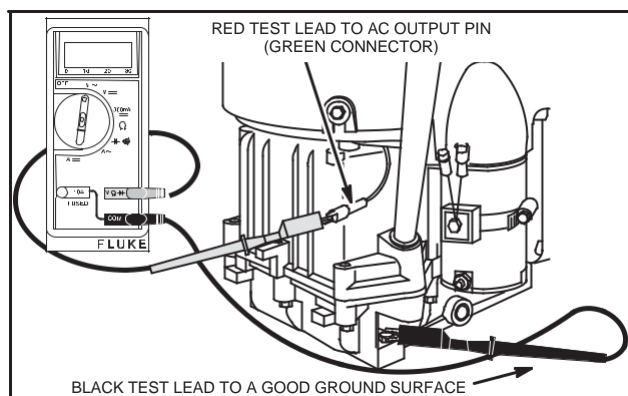

Fig. 19 – Testing AC Output
4. Attach RED test lead clip to output terminal, Fig. 19.